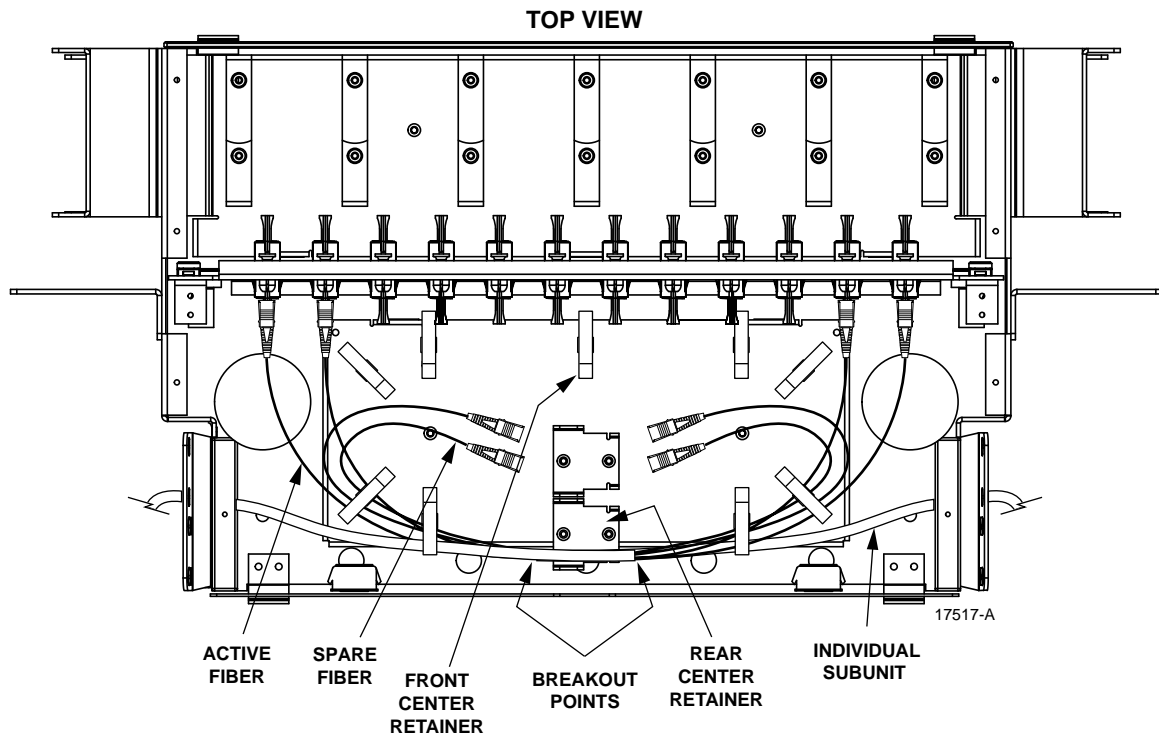

Figure 19. Quad Cable Routing
If a quad cable is being installed, route one-half of the quad cable into the left side and the other half into the right side of the module (as shown in Figure 19). Quad cables entering the module from the left (when viewed from the rear) are terminated on the right half of the module. Quad cables entering the module from the right (when viewed from the rear) are terminated on the left half of the module. Use the following procedure.
4. Remove the working and spare fibers from the cable retainers. See Figure 19.
6. Route the quad cable through the radius limiters and retainers on the module and separate the working and spare fiber pairs. See Figure 19.